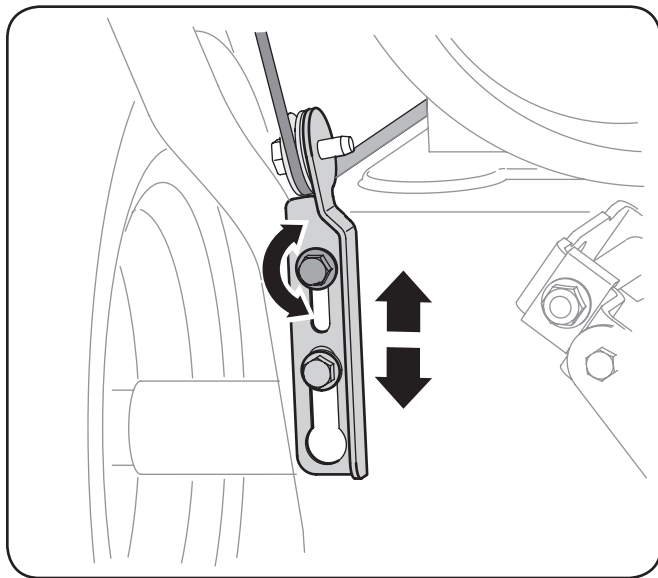

Figure 3-14
4. Allow the auger to remain engaged for approximately ten (10) seconds before releasing the auger control. Repeat this several times.
7. To readjust the control cable, loosen the upper hex screw on the auger cable bracket. See Fig. 3-14.